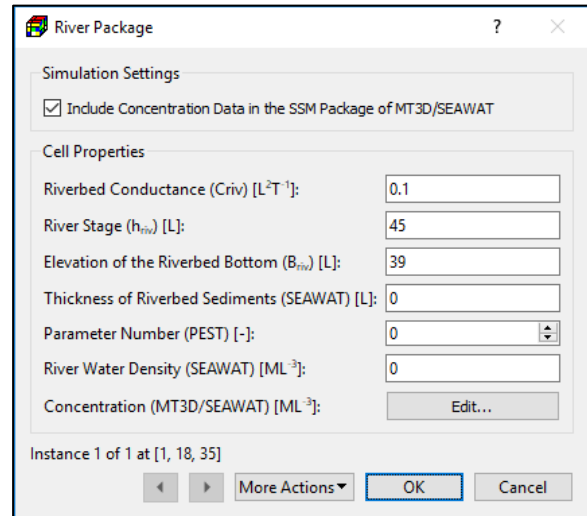

Figure 82. The River Package dialog box for specifying cell properties
2. **Cell-by-cell input method:** Figure 82 shows the dialog box for specifying one or more reaches to a model cell. For each reach, the following properties need to be assigned.